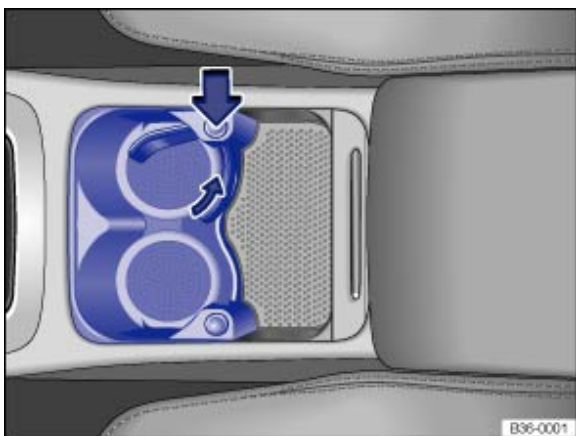

Fig. 202 In the front centre console: drink holders
- Press the button → *Fig. 202* (large arrow) to open the holder.
- Turn the insert against the direction of the small arrow to move it out of the mount → *Fig. 202* and remove it.